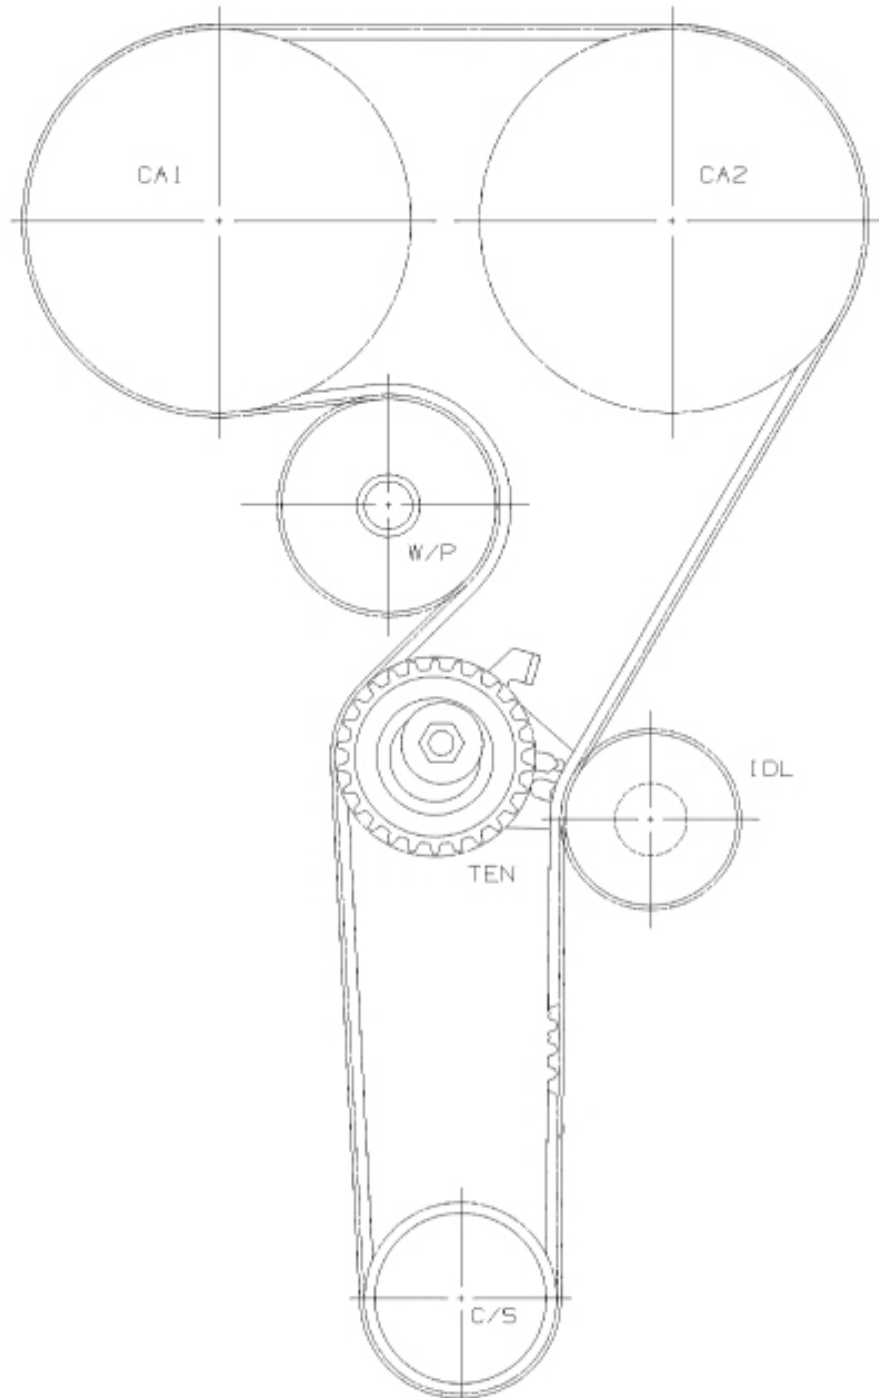

Figure 3: Belt Layout (1.4/1.6L DOHC, GAS)
6. Install the timing belt being careful to engage the appropriate teeth of all the corresponding sprockets as per drive layout (See Figure 3).